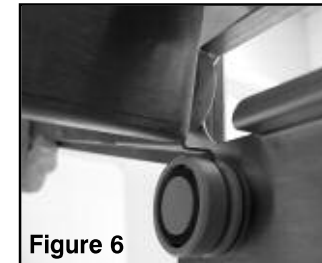

Figure 6
**NOTE:** Align Bearing with Flange of Outer Chassis (**Figure 6**). Tilt Inner Drawer Chassis "up" to engage "Safety Stop".